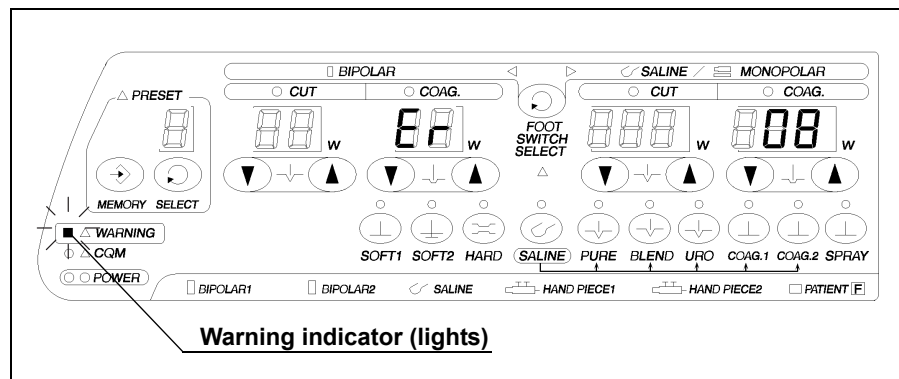

Figure 5.10
- If a control switch is pressed while the output setting is “0” W, output is not activated. Instead, the alarm tone is generated, the alarm indicator lights and the output setting indicator displays “Er08” (see Figure 5.10).